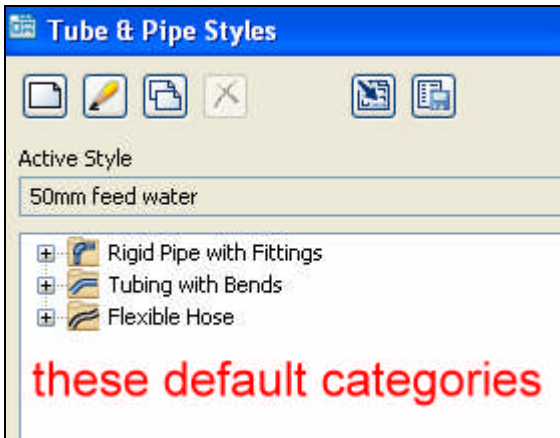
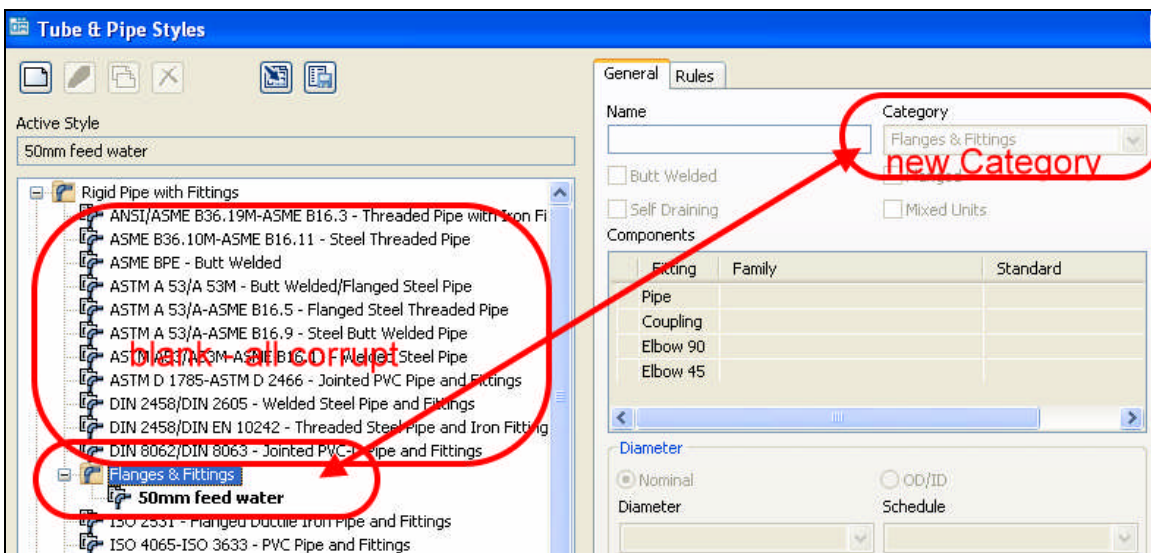

Figure 1
Figure 2
2. Another idea was to export / import styles e.g. create a new assembly with Tube & Pipe and export the default styles, or scrounge around in older versions of the project to export known working styles etc etc. and import these in to the corrupt assembly. Tried that but it was far from workable - issues were that the styles had to be saved in to a new or different category to the defaults. See Figure 1. The default categories were all corrupt. You needed to save the styles in to a newly / differently named Category as shown in Figure 2. However, I could not spawn any new styles from this - it would not allow a copy of the style in order to edit and create a further one from the style "50mm feed water" shown in Figure 2. It would be way too cumbersome to now import each new style from somewhere else. This lead me to believe that there was a corrupt file that needed to be flushed.